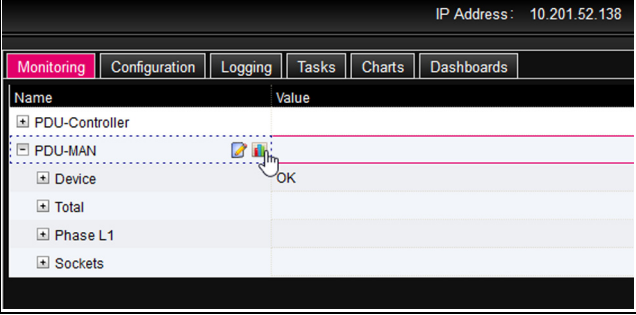

Fig. 49: „Grafic“ symbol
- Click the coloured "graphic" symbol next to the "PDU-MAN" entry that resembles a stylised bar graph (fig. 49). The display switches to the graphical representation